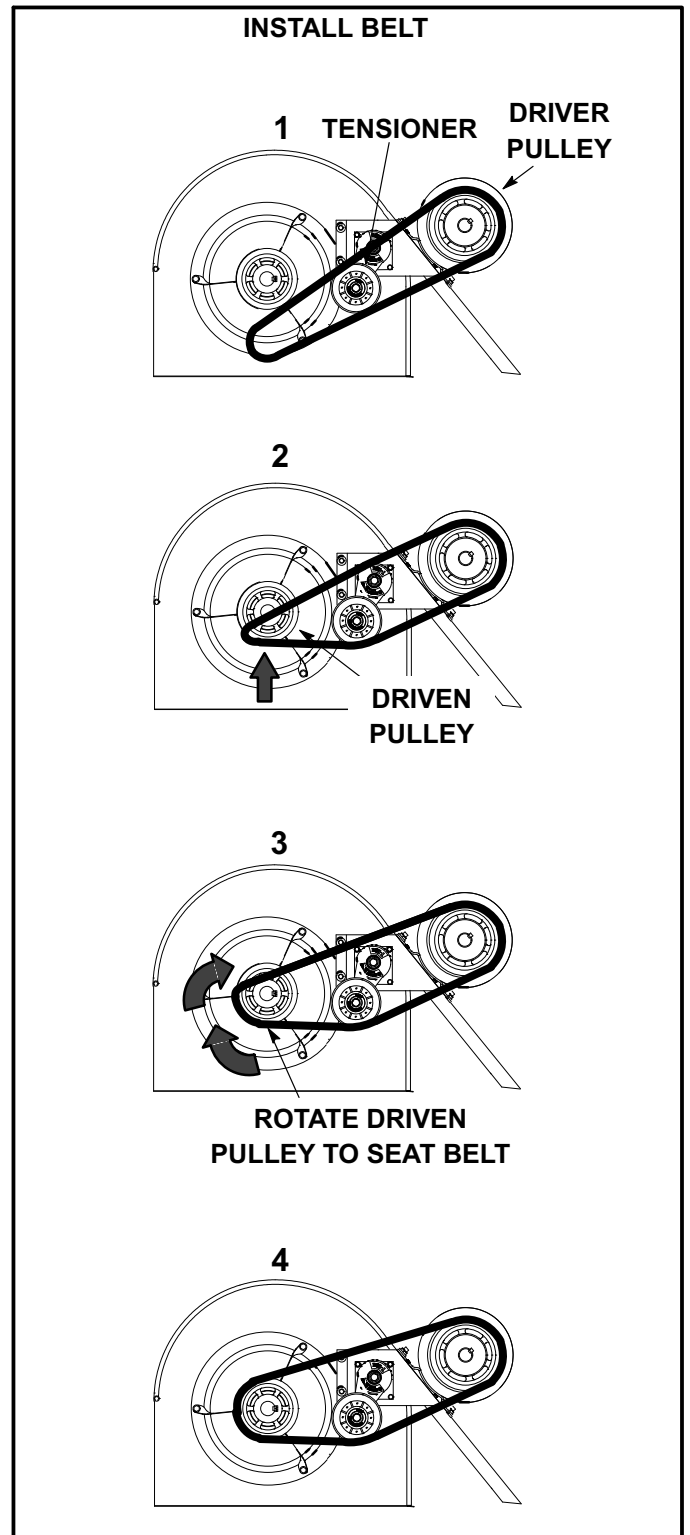

FIGURE 11
- 6- Replace blower belt. See figure 11.